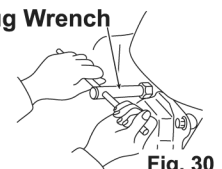
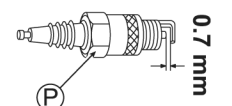

Fig. 30
Fig. 31
2. Remove Ignition plug (P) with the attached plug wrench. (See Fig. 30)
3. Exchange Ignition plug (P) if a great amount of carbon is adhered to it or its insulator is cracked or damaged.
4. Remove the carbon adhered to the electrode, and adjust the electrode clearance to 0.7 mm. (See Fig. 31)
5. Install Ignition plug (P) and Plug cap (Q).